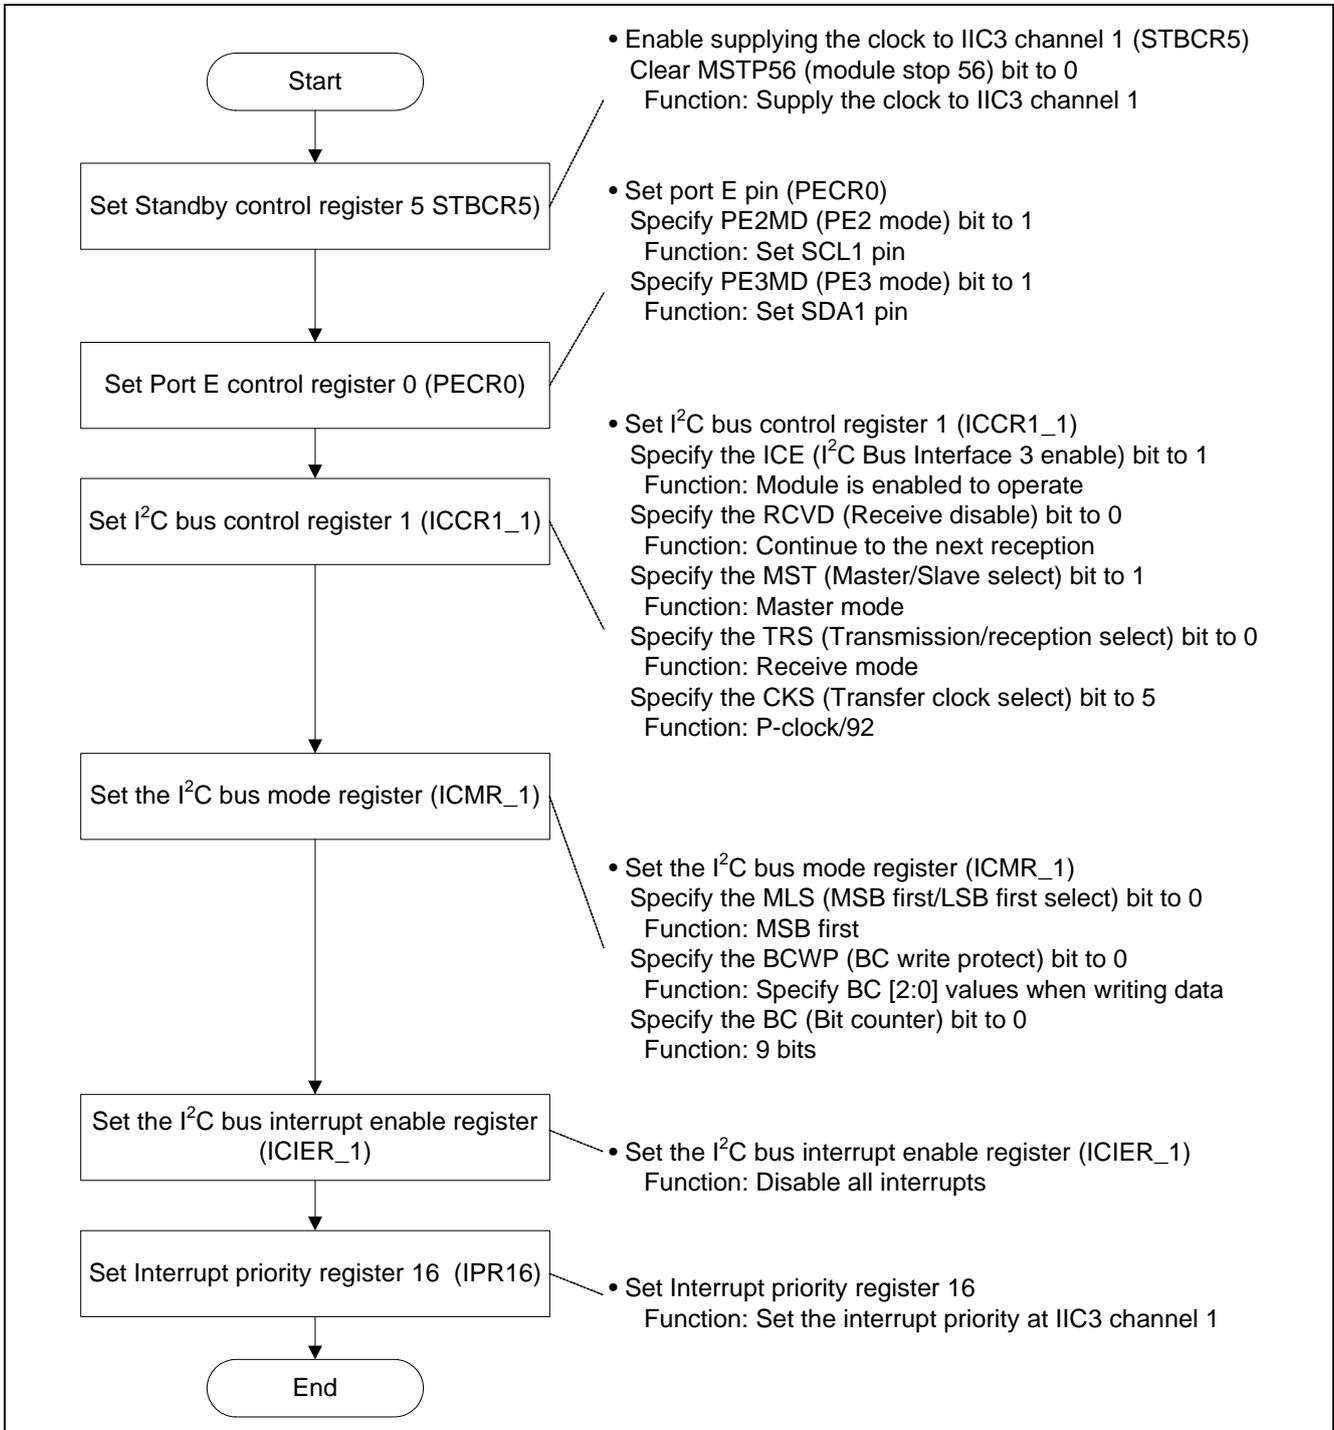

Figure 2 IIC3 Configuration Flow Chart
This section describes how to set up IIC3. Make sure to specify the transfer rate to satisfy EEPROM electrical characteristics. Pφ/92 is specified in the sample program. Figure 2 shows the flow chart for configuring IIC3. For more information about the register setting, refer to the SH7262 Group, SH7264 Group Hardware User's Manual.
• Refer to Figure 2, IIC3 Configuration Flow Chart